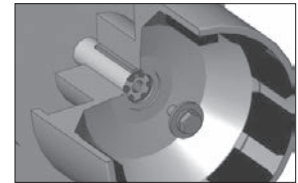

Figure 6 - IEC
**Metric Motors:** Secure the drive to the motor shaft using bolt, lock washer and flat washer (items 19, 20, 21). Thread the bolt into the end of the motor shaft (while holding the outer drive to prevent it from turning). See figure 6.